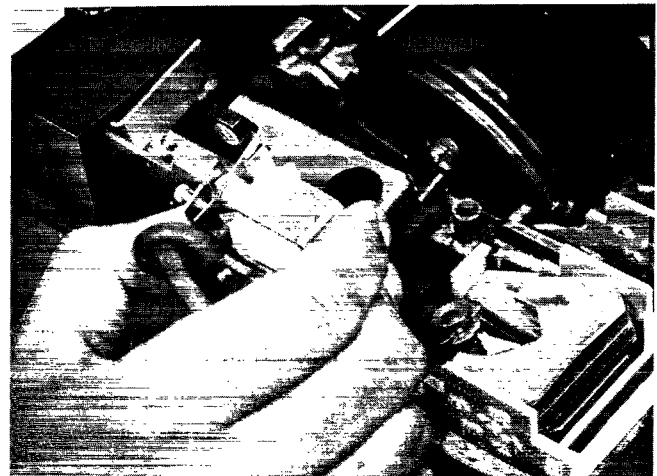
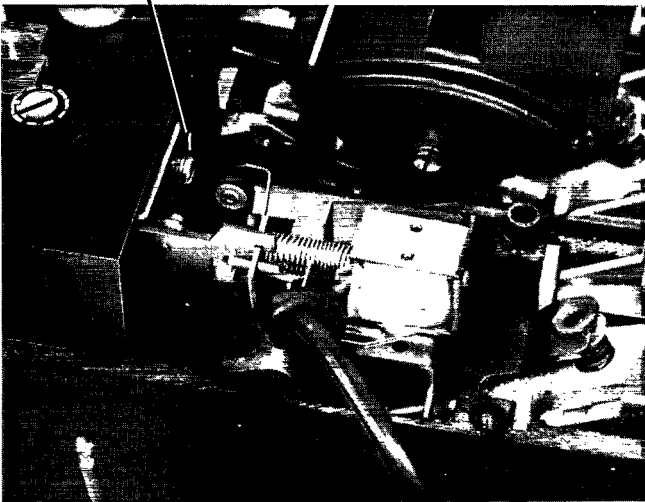

Figure 4. Placing the undervoltage accessory into the circuit breaker.
Figure 5. Undervoltage accessory installed in the circuit breaker.
3. For breakers and trip units built before week 49, 1996 (date code J649=), install the UVR as supplied. For breakers and trip units built beginning in week 49, 1996, break the tab off the slide on the accessory, as illustrated in Figure 5. Refer to the breaker bar-code label or the trip unit face to determine the date of manufacture. The date code appears as a letter followed by three digits. For instance, J649= indicates the manufacturing plant (J), the year (6), the week (49), and the decade (= indicates 1990s).
6. Seat the plunger in the coil and hold it firmly. Rotate the circuit breaker handle forward and place the accessory in the right pole, as illustrated in Figure 4. Release the breaker handle and the accessory. Secure the accessory to the trip unit with the #6-32 screw provided, as illustrated in Figure 5.